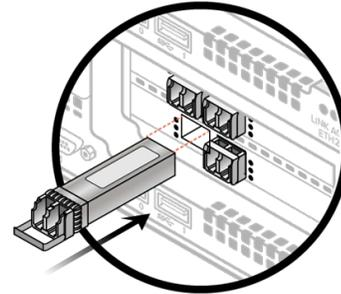

Figure 6-5. Inserting an Optical Transceiver
1. Insert the optical transceiver into the port. See Figure 6-5.